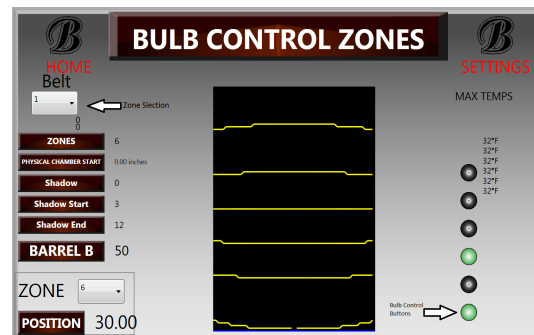

Figure 5: Bulb Control Screen
- 5) Choose belt (zone) in question (Figure 5)
- 13) Press each circle at the right of the image once to turn each circle green. This will turn the bulbs on in the selected lane. (Figure 5)